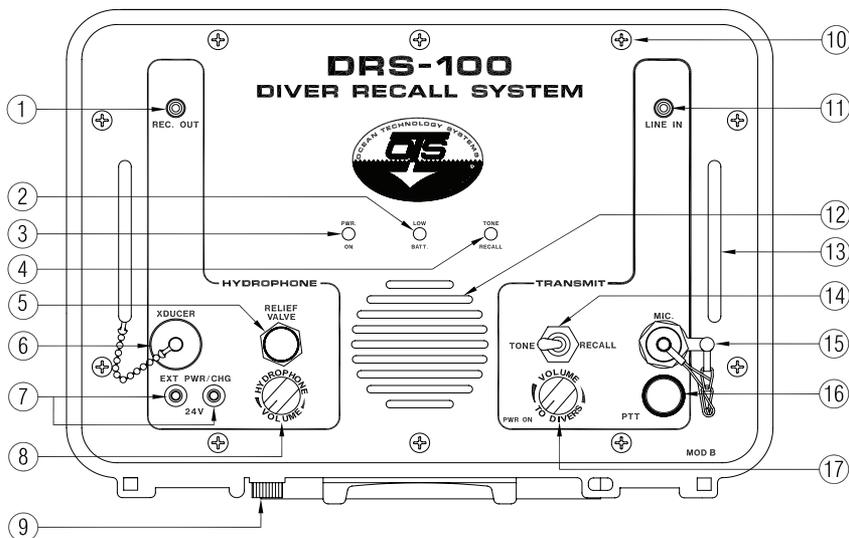

Figure 1. Features of the DRS-100B
Refer to Figure 1. Terms in all capital letters correspond to the labels on the DRS-100 panel.
3. Fully close the relief valve (Fig. 1, #5) on the panel by rotating it clockwise.
4. If you will use an external power source, connect its banana plugs to the “EXT PWR/CHG” jack (Fig. 1, #7) on the DRS-100 panel, being careful to observe polarity (match the red and black). Activate the external power source, if necessary, but leave the DRS-100 power off. If you will use the internal batteries, proceed to Section 3 (Batteries and Charging, p. 7) before continuing.
5. Remove the protective cover from the transducer receptacle (Fig. 1, #6).
2.2.1 POWER AND VOLUME CONTROL: To activate the unit’s power, rotate the “To Divers” (transmit) volume control (Fig. 1, #17) clockwise. The green “PWR ON” LED (Fig. 1, #3) should illuminate. To adjust the hydrophone listening volume, turn the hydrophone volume control (clockwise rotation increases the volume).
2.2.2.1 Tone/Recall Mode: For tone transmission, move the “TONE/RECALL” switch (Fig. 1, #14) either right for *intermittent tone* or left for *continuous tone*. The tone/recall LED (Fig. 1, #4) illuminates *green* when the DRS-100 is in intermittent tone mode and *red* when in continuous tone mode.
2.2.2.2 Voice Communication: For voice communication to divers or swimmers, set the transmitter volume (Fig. 1, #17) to about half volume. If you will use a hand-held microphone (e.g., the HSM-10) with a push-to-talk (PTT) switch, insert the microphone connector into the jack (Fig. 1, #15), depress the PTT button, and talk into the microphone. Otherwise, press and hold the PTT switch (Fig. 1, #16) and talk into the front-panel speaker (Fig. 1, #12). To increase the transmission volume, rotate the transmit volume control (Fig. 1, #17) clockwise. Release the PTT button when you have finished transmitting.
2.2.2.3 External Audio: To transmit audio from an external source, connect an RCA plug leading from the source to the DRS-100’s “line-in” jack (Fig. 1, #11).
2.2.3 RECORDING: To record audio signal received from the hydrophone or that you transmit into the water, insert a male RCA plug into the record-out jack (Fig. 1, #1). Connect the other end to your recorder’s microphone input.
When the low-battery LED (Fig. 1, #2) begins to flash red, the battery voltage has decreased to 20 volts. Although the DRS-100 can operate with as little as 12 volts, we recommend that you recharge the batteries (Section 3.1) as soon as possible after the LED starts to illuminate. If the batteries no longer hold a charge, replace them (Section 3.2).
2. Turn the relief valve (Fig. 1, #5) fully counterclockwise to open it.
3. Locate the 24-volt "EXT PWR/CHG" jack (Fig. 1, #7), and insert the plugs (+ red and – black) from the RCS-30 smart charger.
- **Batteries can excrete hydrogen gasses during the charging cycle. To minimize gas build-up, open the pressure relief valve (Fig. 1, #5) on the panel while recharging the batteries. Do not release the pressure relief valve and turn on the DRS-100 until a minimum of 15 minutes have elapsed after the charging cycle has been completed and the charger is disconnected from the front panel. *Failure to follow this procedure may result in damage to the unit or serious injuries due to an explosion!!!***
1. Remove the ten front-panel screws (Fig. 1, #10).
2. Gently remove the control panel by pulling on the handles (Fig. 1, #13).